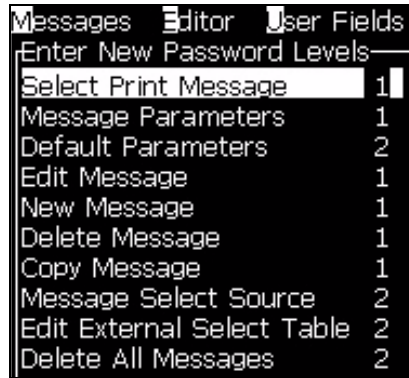

Figure 4-10: Enter New Password Levels
- 2 Select the menu (see Figure 4-9) that needs a change in the password level access and press the *Enter* key. The *Enter New Password Level* screen appears (see Figure 4-10 on page 4-6).